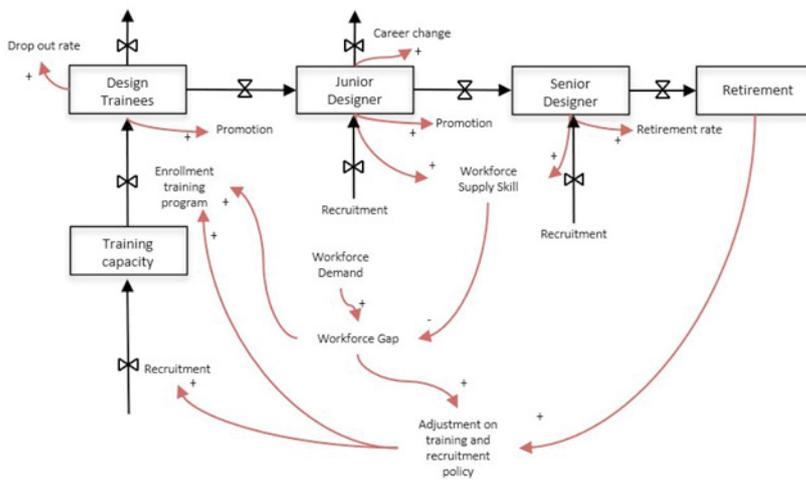

Fig. 4 System Dynamics Model of a three classes system (based on Singh, 2016)
5. When it comes to the workforce capacity's side, System Dynamics (SD) is still the main way to embrace the dynamic nature of a project. Starting from a system representation by means of the Stock and Flow model, it is possible to depict all the cause-effect connections between system variables. In figure 4, a System Dynamics example is applied to a supply system composed of three stocks (Trainees, Junior Designers and Senior Designers). What if the recruitment rate of Junior Designers increases? What if the training completion rate increases? Is the supply still able to meet the demand?